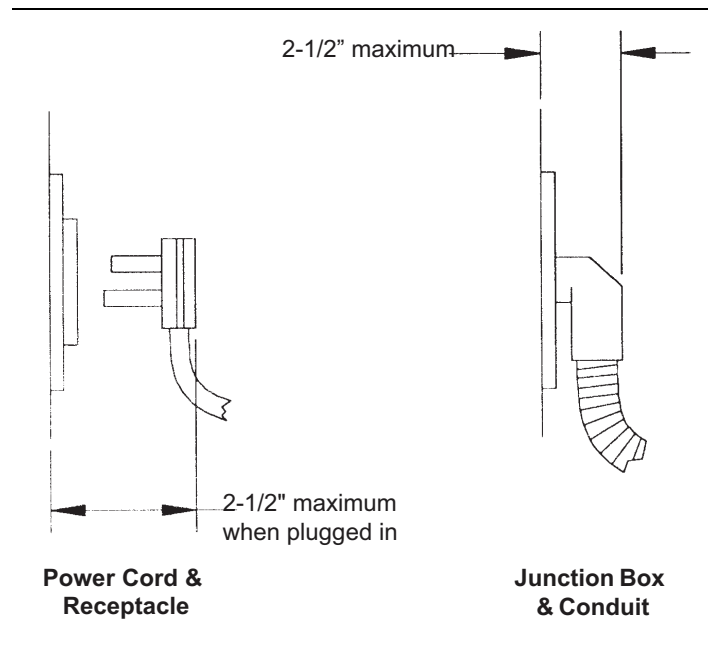

Figure 3b: Wall Connection
2. These ranges may be recessed into the cabinets beyond the edge of the front face of the oven (See Figure 2 and Figure 3b).
When the power supply cord or conduit is connected to the mating receptacle or junction box cover, the combined plug/receptacle or junction box cover/conduit connector should protrude no more than 2-1/2" from the rear wall. See Figure 3b.